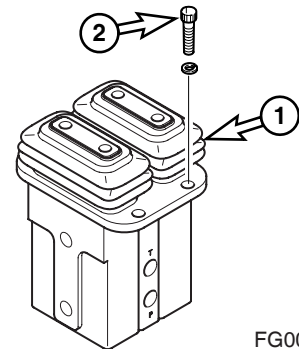

Figure 49
4. Connect hoses as tagged during removal to pedal valve (1, Figure 49).